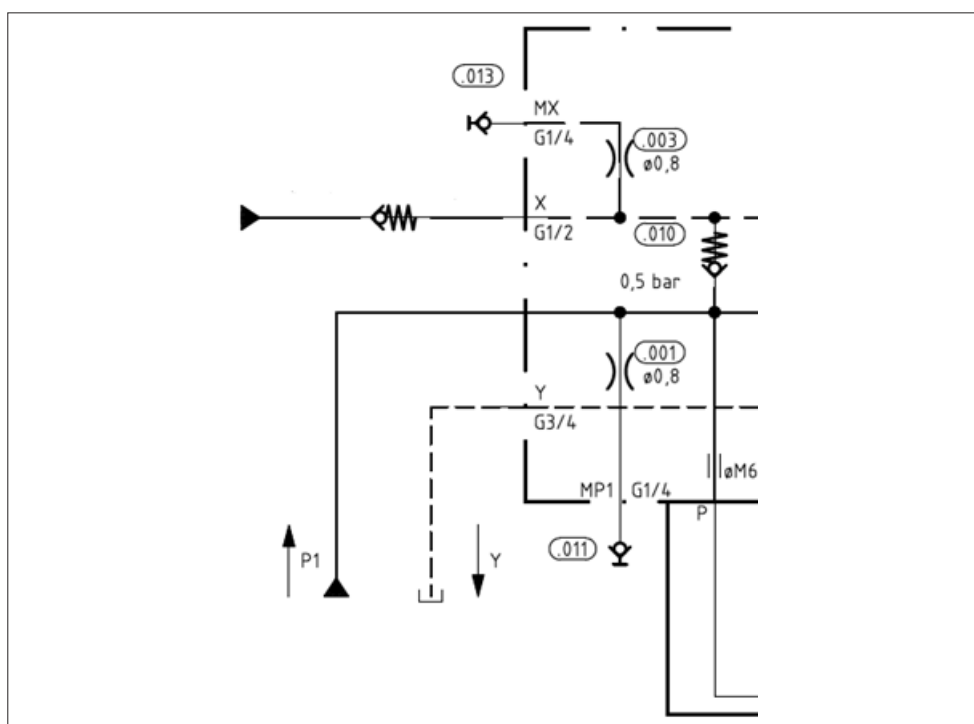

Fig. 2: Circuit diagram example for external pilot oil supply
External pilot oil supply If no pressure is available at port P1, it is possible to connect a separate hydraulic oil supply with check valve to port X, thus enabling testing of the two main valves, item 110 and 210, and the two pilot valves, item 130 and 230 (see Fig. 2). The application of pressure at port X and switching of the two pilot valves, item 130 and 230, results in the opening of the two main valves, item 110 and 210, which is indicated by the two limit switches. Thus, a DC value of 99% can be ensured for the indirect monitoring of the pilot valves, item 130 and 230, via the limit switches of the main valves, item 110 or 210.